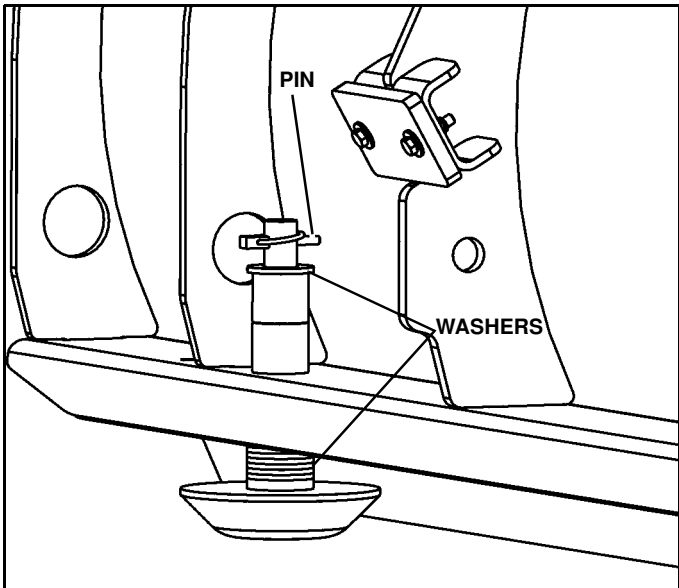

Figure 1-59
4. Adjust shoe assemblies by removing shoe mounting lynch pin and adding or subtracting washers on the top or bottom of the shoe-mounting bracket. (See Figure 1-59).